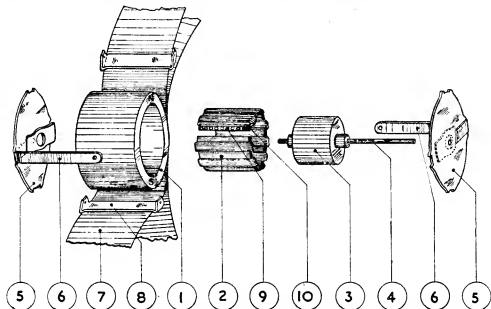

Fig. 1. The internal components of the "Electrotor"
been attained in the orthodox type of motor, but also in a simplified form of construction which is conducive to improved reliability and durability. The new type of motor, which is known as the "Electrotor," consists of the following essential parts, as illustrated in Figs. 1, 2 and 3: (1) A permanent ring magnet which forms the main carcass of the machine and also the field magnet; (2) an armature composed of an iron wire core of annular form, with a toroidal winding of fine insulated copper wire, mounted on a bobbin (3) and spindle (4), and two end plates (5) incorporating bearings for the spindle, and to which are attached spring contact brushes (6); a flexible insulating covering (7) is wound around the magnet, and serves, in conjunction with the metal clips (8), as a means of holding the assembly together, and insulating the extensions of the brushes (6), which form the main terminal connections.